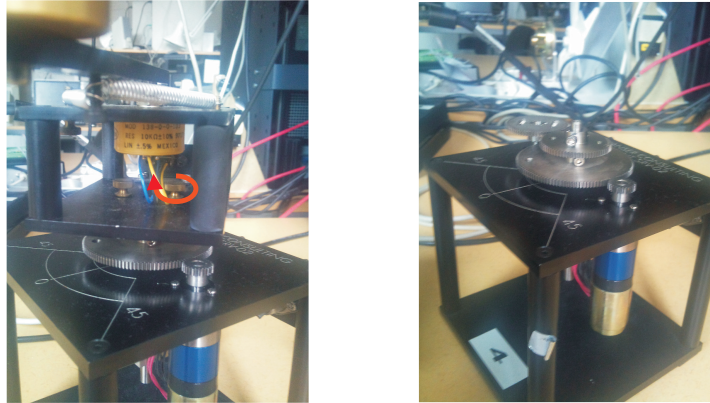
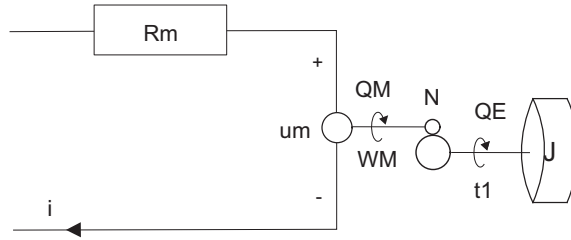

Figure 6: Removing the rotating part.
Figure 7: The system without the rotating part.
**Assignment 3.5:** (Grey box modeling) Consider the system obtained by removing the rotating part according to Figure. 6. The system can be described by Figure. 7. Identify the inertia,  $J$  which should be approximately equal to  $J_1$ , in the system.